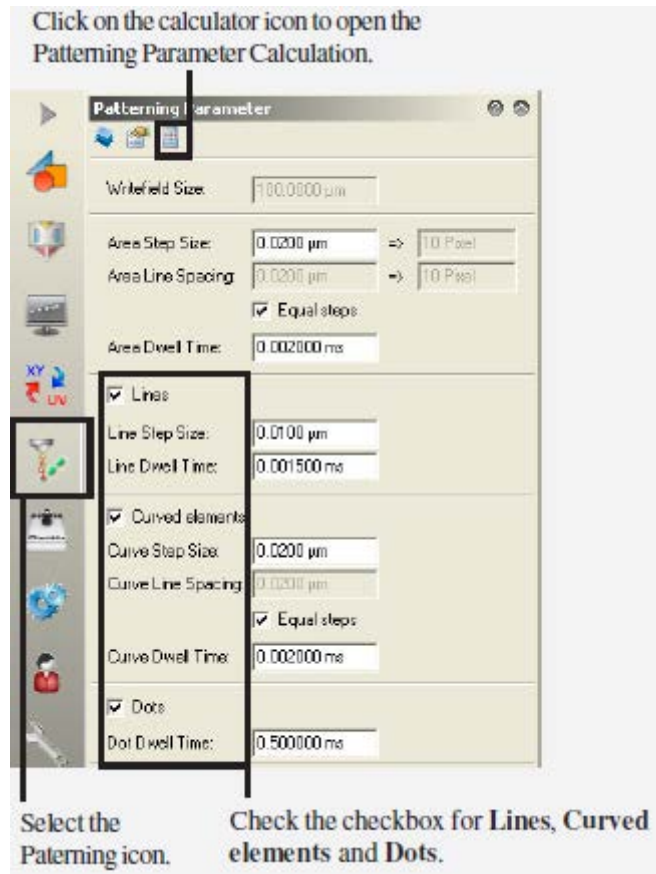

Figure 25: Getting to the patterning calculator.
1. In the patterning menu (see Figure 25) choose the kind of patterning elements you are using in your patterning file and then click on the calculator icon.